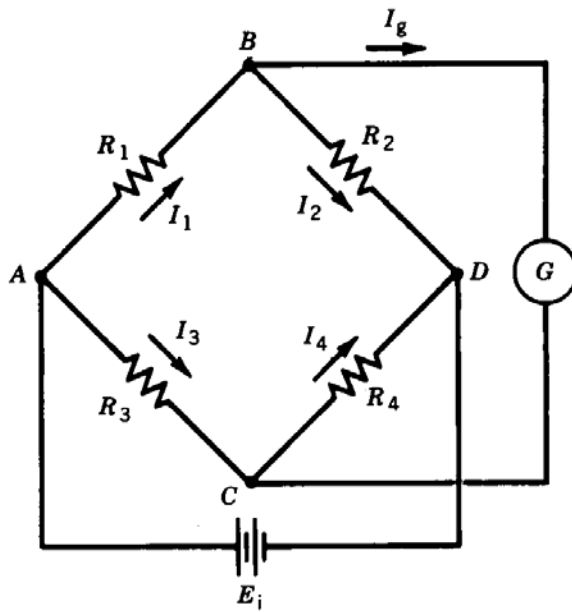

Figure 17. Basic Wheatstone bridge circuit.
99) Using the Wheatstone bridge circuit in Figure 17. If R_3 is strain gauge sensor then R_4 could be varied to balance the bridge.